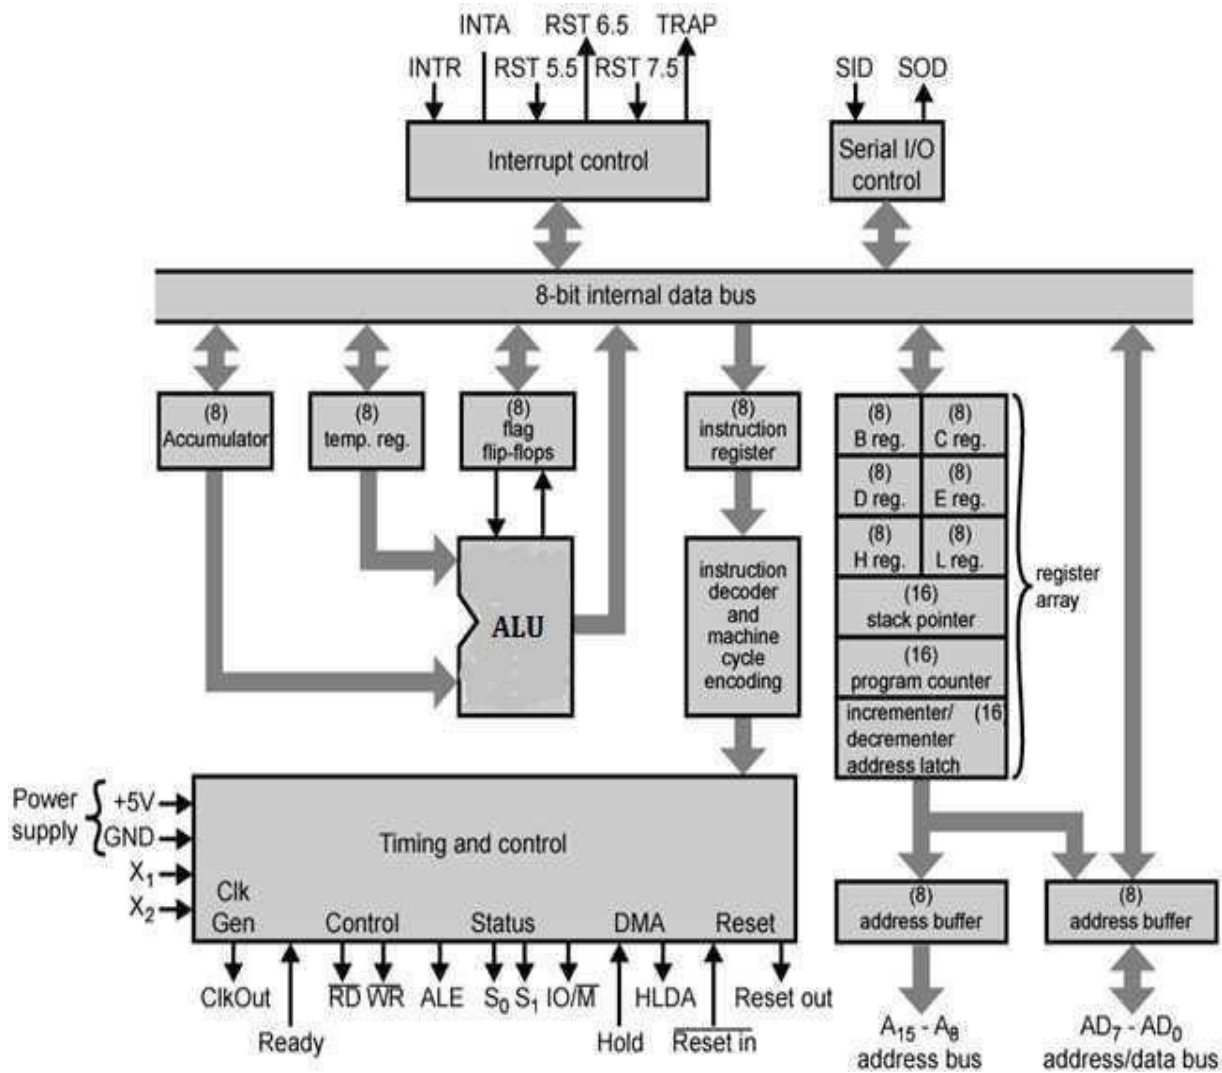

Figure 1.2.1 Architecture 8085 processor
Figure 1.2.1 shows the functional block diagram of Intel 8085. It consists of three main sections:
- Fig 1.2.1 shows the various registers of Intel 8085 which are used by the microprocessor for temporary storage and manipulation of data and intrsuctions.